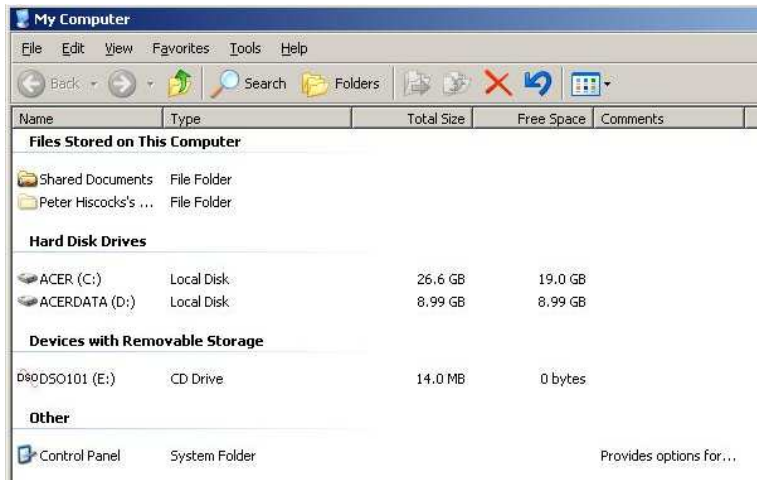

Figure 21: My Computer
1. Double click on `My Computer` to obtain a screen like figure 21.